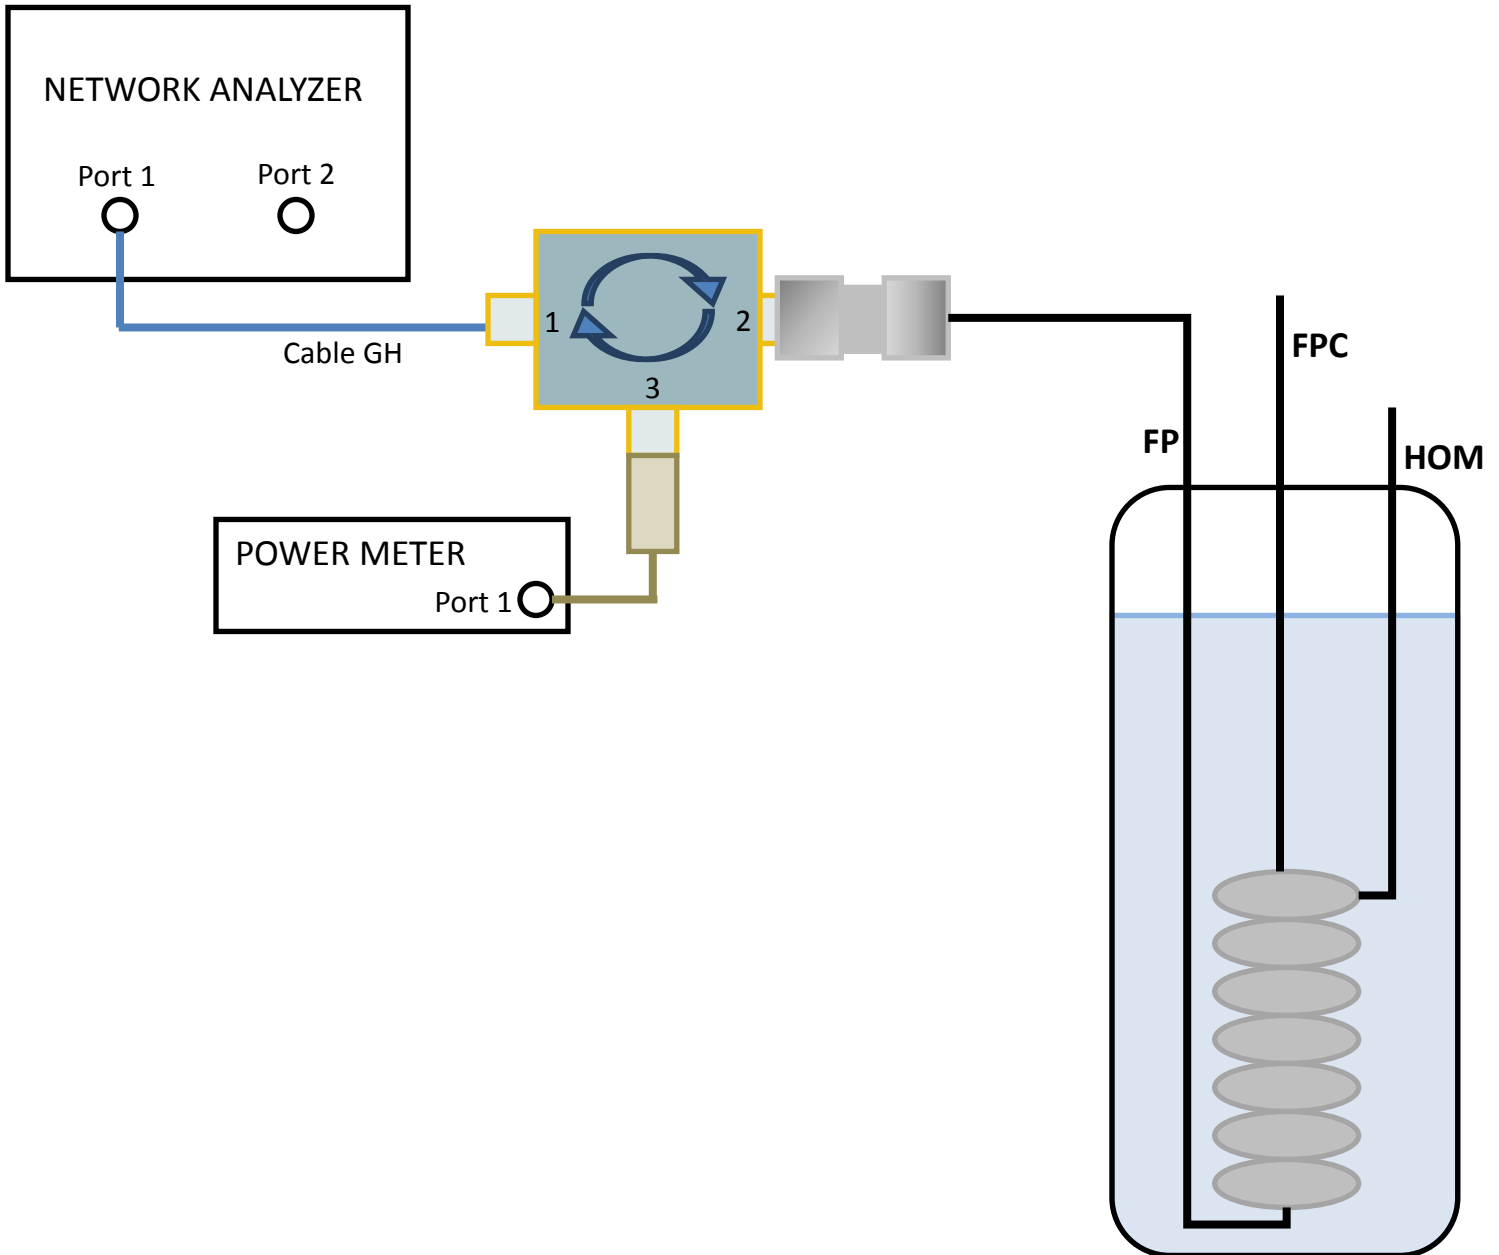

Figure C2. Circulator connected to Network Analyzer, FP Cable, and Reference Power Meter
- a. At Dewar, connect circulator ports 1, 2, and 3 as shown in Figure C2:
- Port 2 - Cavity Field Probe (FP) connector on top plate